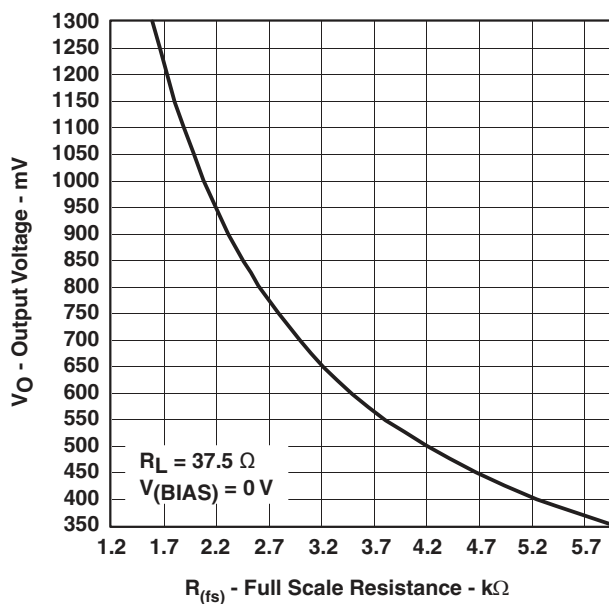

Figure 7-12. OUTPUT VOLTAGE vs FULL-SCALE RESISTANCE
(2) The HS_IN, VS_IN, and FID input setup/hold times are valid for 3.3-V I/O operation only. These sync inputs are not recommended for use with 1.8-V I/O logic levels.
(3) Defined as the delay on Y pixel data, starting from the rising edge of CLKIN, until the clock period.
(4) CSC contribution: 8 pixels, CSM contribution: 1 pixel, 2x interpolation filter contribution: 18 pixels
(5) PSRR is defined as 20*log (ripple voltage at DAC output/ripple voltage at AVDD input). Limits from characterization only.
(6) Crosstalk spec applies to each possible pair of the 3 DAC outputs. Limit from characterization only.
(7) The imbalance between DACs applies to all possible pairs of the three DACs.
(8) Nominal values at R_{FS} = R_{FS(nom)}; see Figure 7-12. Limit from characterization only. Excludes bias offset.